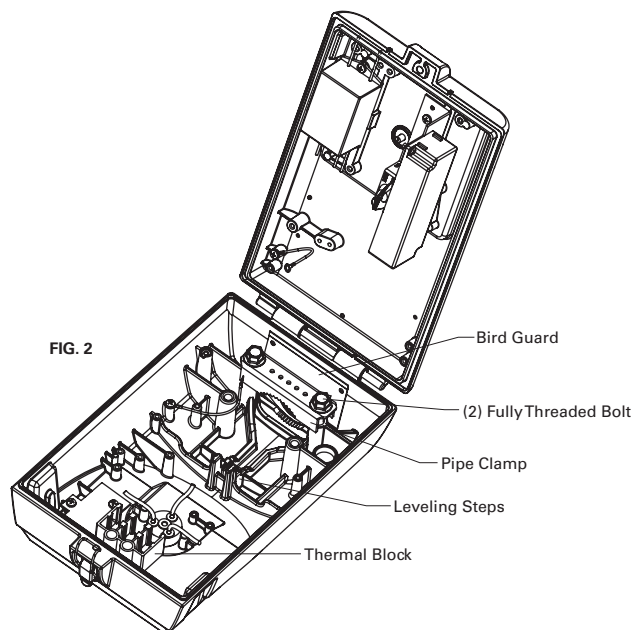

FIG. 2
STEP 3. Using a 9/16" socket, loosen the two or optional four pipe clamp mounting bolts enough to allow mounting arm (not included) to slide onto leveling steps. **FIG. 2**